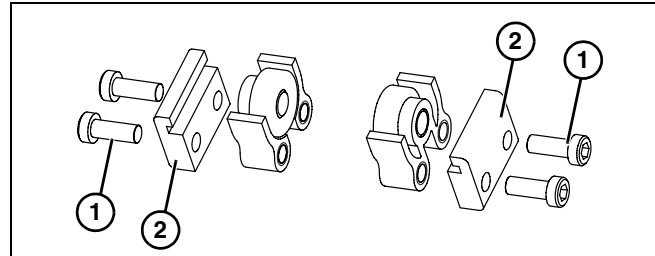
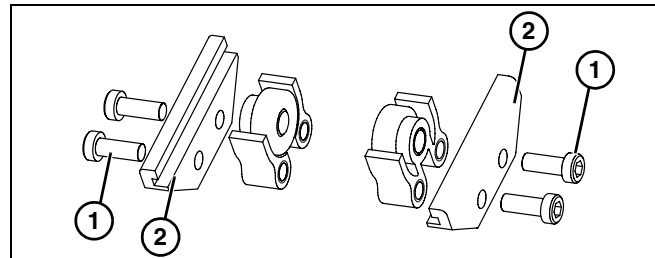

Figure 13
Figure 14
1. Locate return rollers. Exploded views shown in Figure 13 and Figure 14.
2. Remove screws (**Figure 13, item 1**) or (**Figure 14, item 1**) and clips (**Figure 13, item 2**) or (**Figure 14, item 2**) from roller assembly.